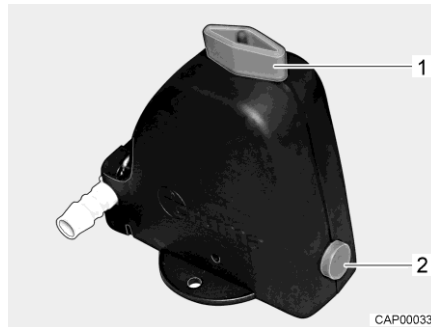
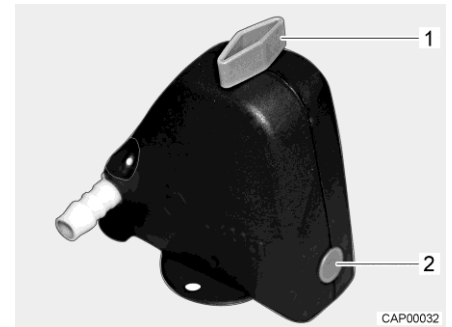

Fig. 101 Safety/drainage valve open
Fig. 102 Safety/drainage valve closed
- Close the safety/drainage valve. Turn the knob (Fig. 101,1) perpendicular to the safety/drainage valve and push the push button (Fig. 101,2) in. The closed safety/drainage valve is shown in Fig. 102. If the temperature is below 6 °C, the safety/drainage valve cannot be closed.